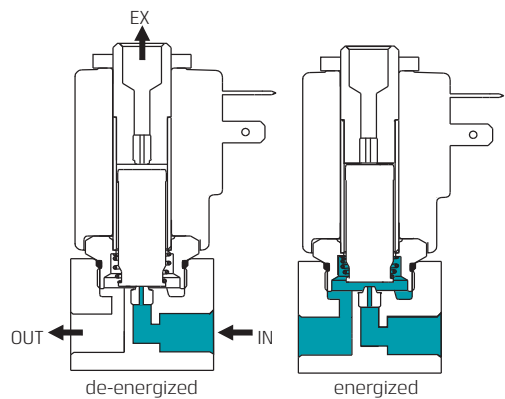

Fig. 3
- Normally Closed (NC) Fig. 3 - no flow from inlet port, flow is from outlet port to the exhaust.